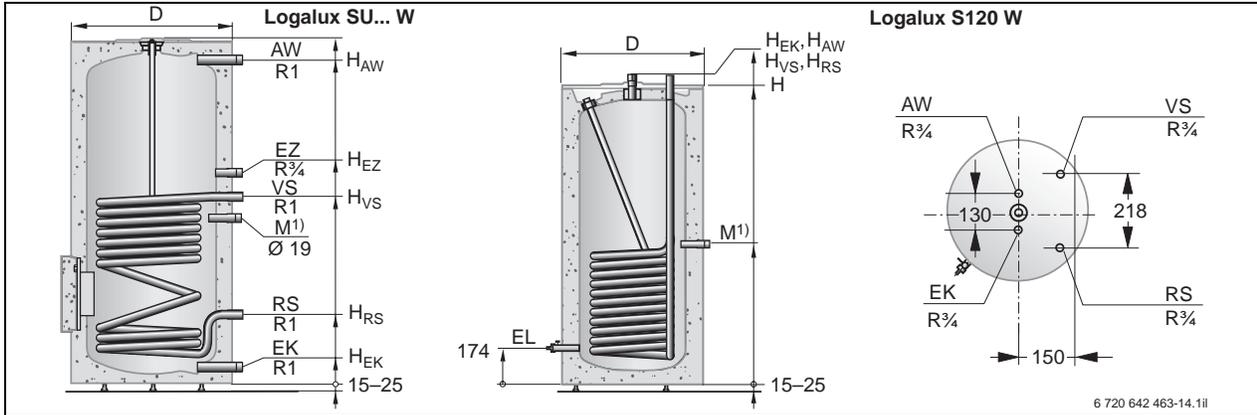

Fig. 14 Dimensions and connections Logalux S120 W and SU... W (dim. in mm)
- 1) Connections at the back of the cylinder (→ fig. 14, page 26); required clearance for the cylinder connections at the back 100 mm